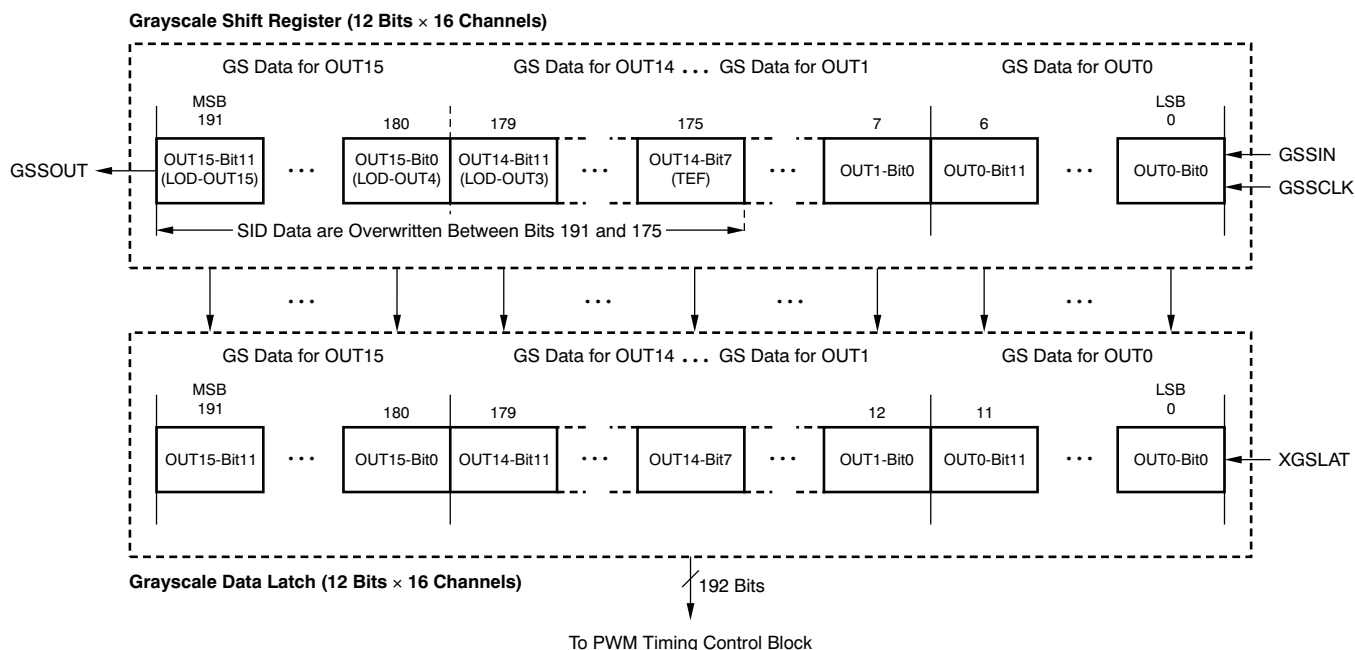

Figure 22. Grayscale Shift Register and Data Latch Configuration
The Grayscale (GS) Shift Registers and data latches are each 192 bits in length, and are used to set the PWM timing for each constant current driver. See Table 3 for the ON time duty of each GS data bit. Figure 22 shows the shift register and latch configuration. Refer to Figure 9 for the timing diagram for writing data into the GS shift register and latch. The driver on time is set by the data in the GS data latch. GS data present on the GSSIN pin are clocked into the GS Shift Register with each rising edge of the GSSCLK pin. Data are shifted in MSB first. Data are latched from the shift register into the GS data latch with a rising edge on the XGSLAT pin.